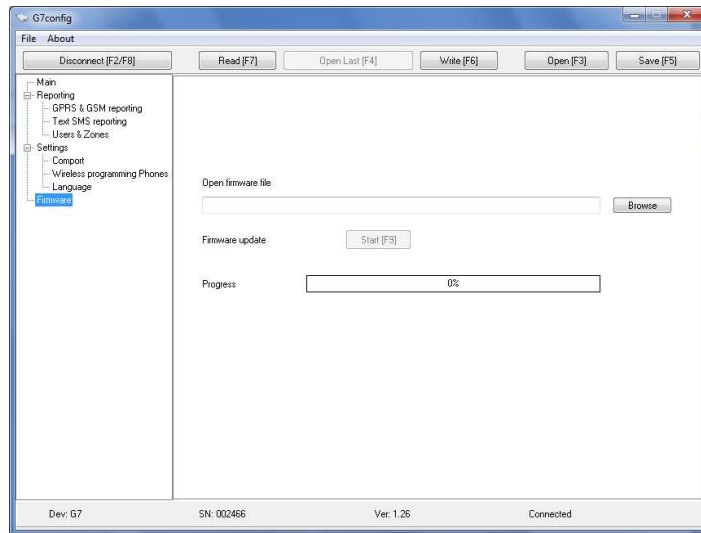

Figure 15. View of window Firmware
7.2.6 Open the window **Main/Firmware** (see *Figure 15*).